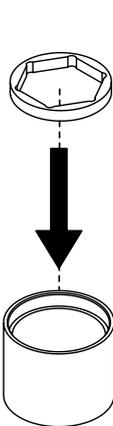

Fig. 12.7
- Fig. 12.7 Press the first mid-bearing spacer (3556) into the top and bottom of the mid-bearing sleeve (3557)
- Fig. 12.7 Press the first mid-bearing spacer (3556) into the top and bottom of the mid-bearing sleeve (3557).